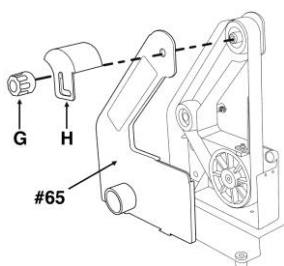

Fig. 16
1. Remove the belt guard locking knob (G) and then remove the upper belt guard (H) and side belt cover (#65) (Fig. 16).
6. Replace the upper belt guard and side belt cover as well as the lower belt guard and tighten with the belt guard locking knob (Fig. 16, 17-).